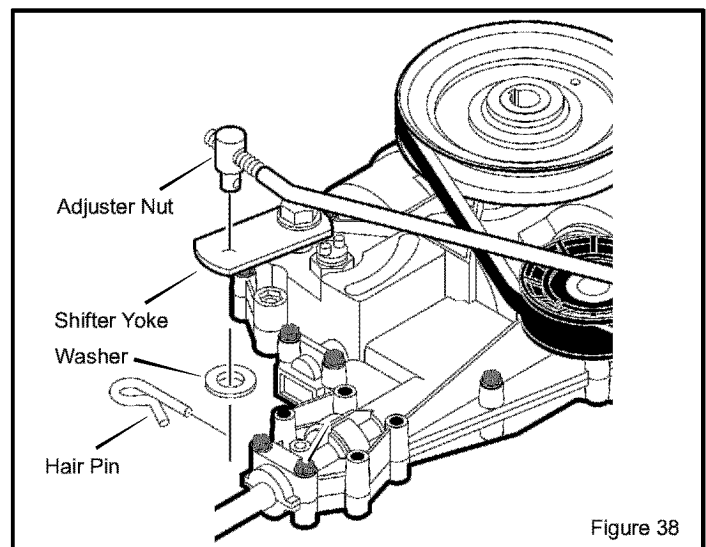

Figure 38
2. Disconnect the **adjuster nut** from the **shifter yoke** (Figure 38).